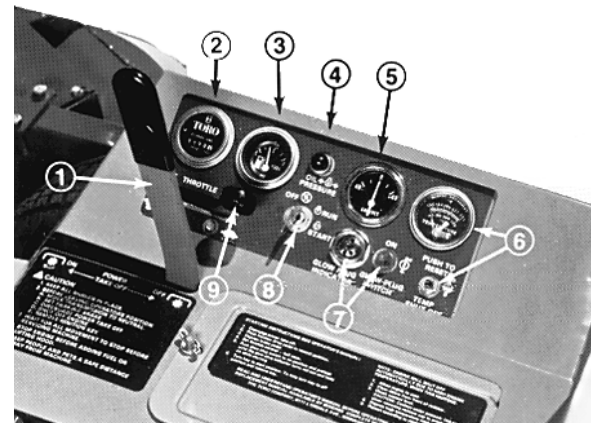

Figure 7
**PTO Lever** (Fig. 7)—The PTO lever has two positions: ON (engage) and OFF (disengage). Slowly push the PTO lever fully forward to ON to start the implement or cutting unit blades. Slowly, pull the lever backward to OFF to stop implement operation. The only time the PTO lever should be in the ON position is when the implement or cutting unit is down in operating position.
**Hour Meter** (Fig. 7)—The hour meter registers the accumulated hours of engine operation. Use it to determine intervals for service maintenance and lubrication.
**Fuel Gauge** (Fig. 7)—Indicates the amount of fuel remaining in the fuel tank.
**Oil Pressure Warning Light** (Fig. 7)—The oil pressure warning light will glow and a buzzer will sound if the oil pressure in the engine drops below a safe level. If low oil pressure ever occurs, stop the engine and find out the cause. Repair the damage before starting the engine again.
**Ammeter** (Fig. 7)—The ammeter shows the charge rate of the battery by the alternator. When the engine is running, there usually is a slight charge, unless the engine is idling slowly. The needle will point to 0 when the battery is fully charged. By
**Temperature Switch/Gauge and Reset Button** (Fig. 7)—The temperature switch/gauge registers the temperature of the coolant in the cooling system. If the coolant temperature gets too high, the engine will shut off automatically. When this happens, turn the ignition key to OFF. Automatic shut-off of the engine usually results from debris on the front of the screen or the radiator, which reduces air flow. After cleaning the outside of the screen and radiator or repairing some other damage, press the reset button and start the engine.